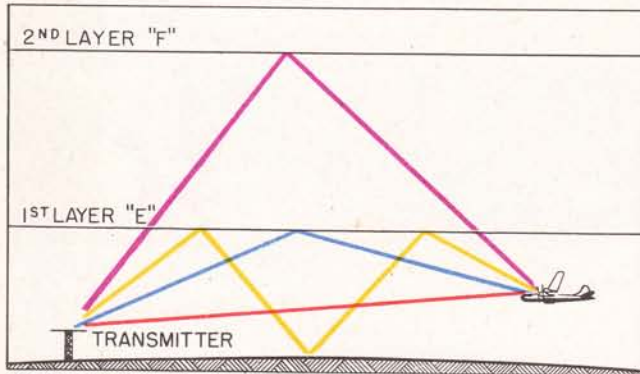
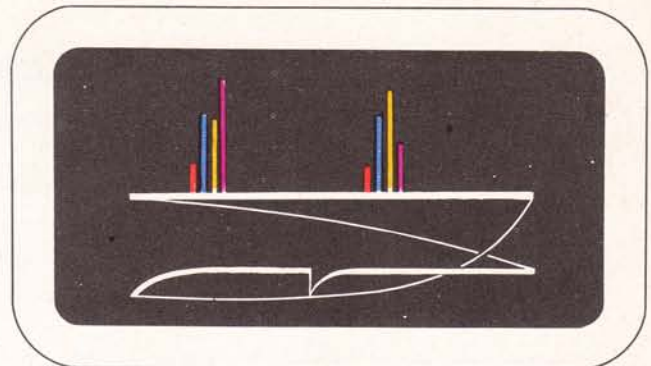

Figure 3-6. Wave Paths
Figure 3-7. Indicated Order of Wave Paths
(1) Turn the "RECEIVER GAIN" control to "POWER OFF" and check to see that the pilot light is not illuminated and that the pattern on the indicator screen has disappeared.
a. GENERAL.—The signals received by the receiver-indicator may be either ground waves, sky waves, or ground and sky waves. This depends upon the location of the airplane in relation to the LORAN transmitting stations and whether reception is made during day or night. Figure 3-6 shows the paths of ground waves and sky waves.
The operator will notice that the ground wave path (red) is the most direct path between the transmitting station and the airplane, while the sky waves follow a longer path depending upon the number of reflections from the ionosphere and the ground during the path of travel between the transmitting station and the airplane. The sky wave path reflected from the first layer of the ionosphere (blue) is the next most direct path between the transmitting station and the airplane. By comparing figure 3-6 and figure 3-7, see the relationship between the paths of the various waves and the order in which they appear on the indicator screen.